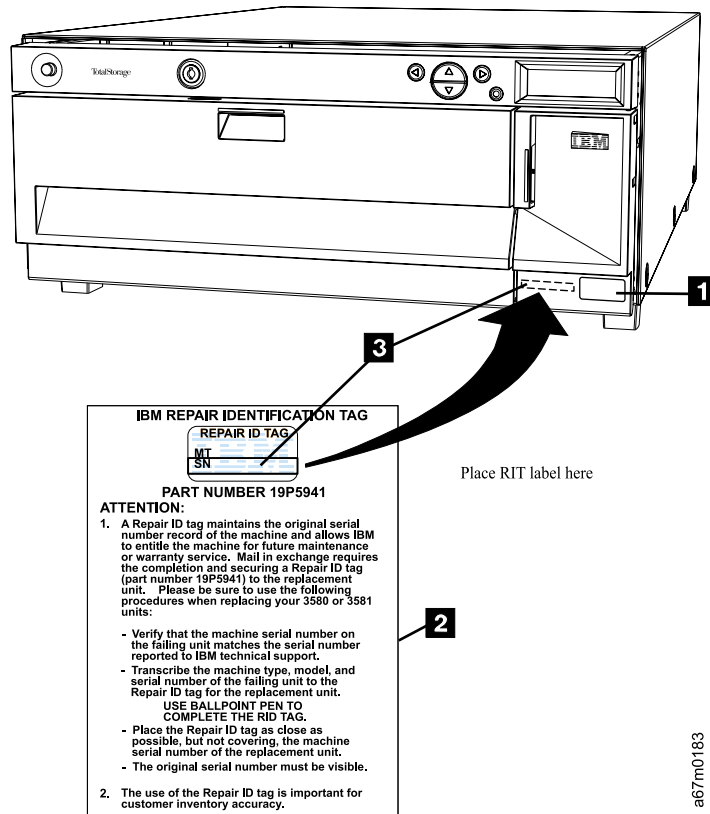

Figure 91. Repair Identification Tag
1. Locate the repair tag (included with the replacement library). See **3** in Figure 91 on page 211.